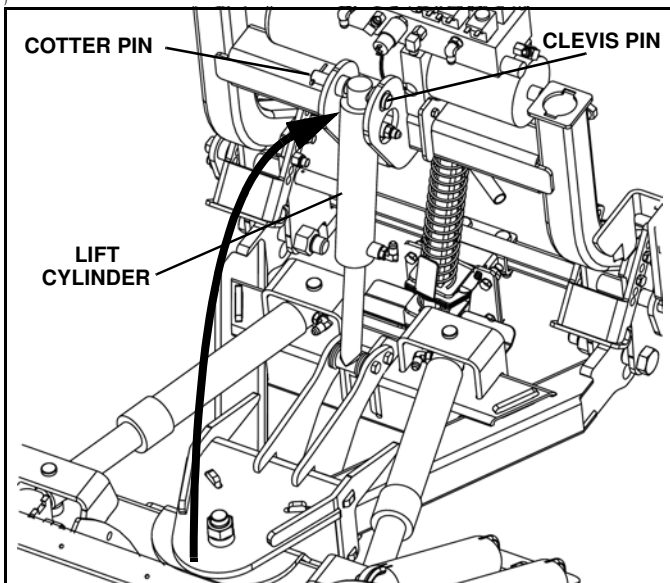

Figure 1-29
20. Flip lift cylinder up and secure to the light bar frame with a 3/4" clevis pin and 5/32" x 1-1/2" cotter pin. (See Figure 1-29).